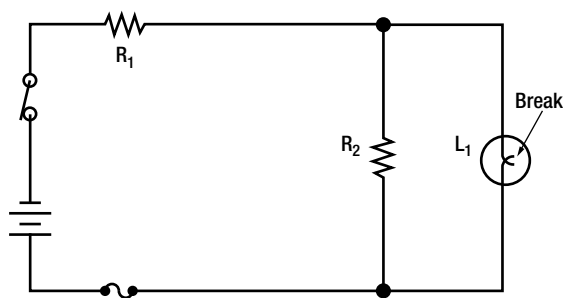

Figure 3-136. An open lamp in a series-parallel circuit.
3. If the open occurs in the branch containing the lamp, [**Figure 3-136**] the circuit will continue to function with increased resistance and decreased current, but the lamp will not light.